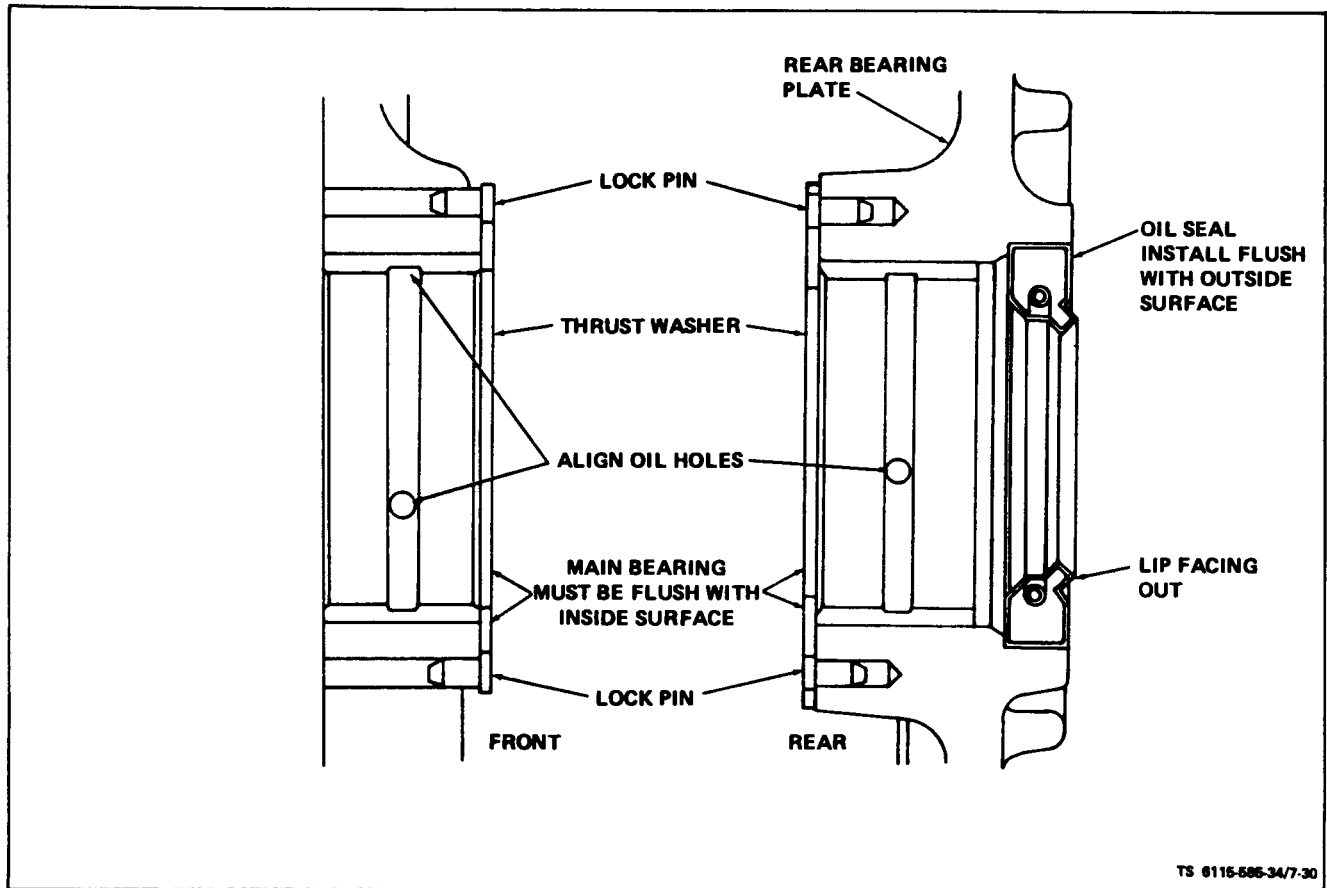

Figure 7-30. Crankshaft Bearing Installation
(1) Heat cylinder block (34, figure 7-15) and bearing plate (19) at 325° F (163° C) in an oven 30 minutes and press front and rear main bearings (22) into place, aligning bearing housing oil holes (see figure 7-30).
(2) Install thrust washers (25, figure 7-15) on locking pins (see figure 7-30).